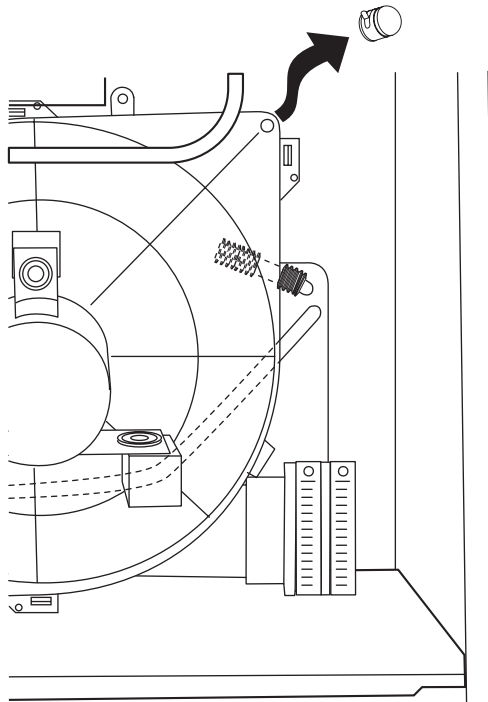

Fig. 48—Inducer Housing Drain Cap
1. Remove upper inducer housing drain connection cap. (See Fig. 48)